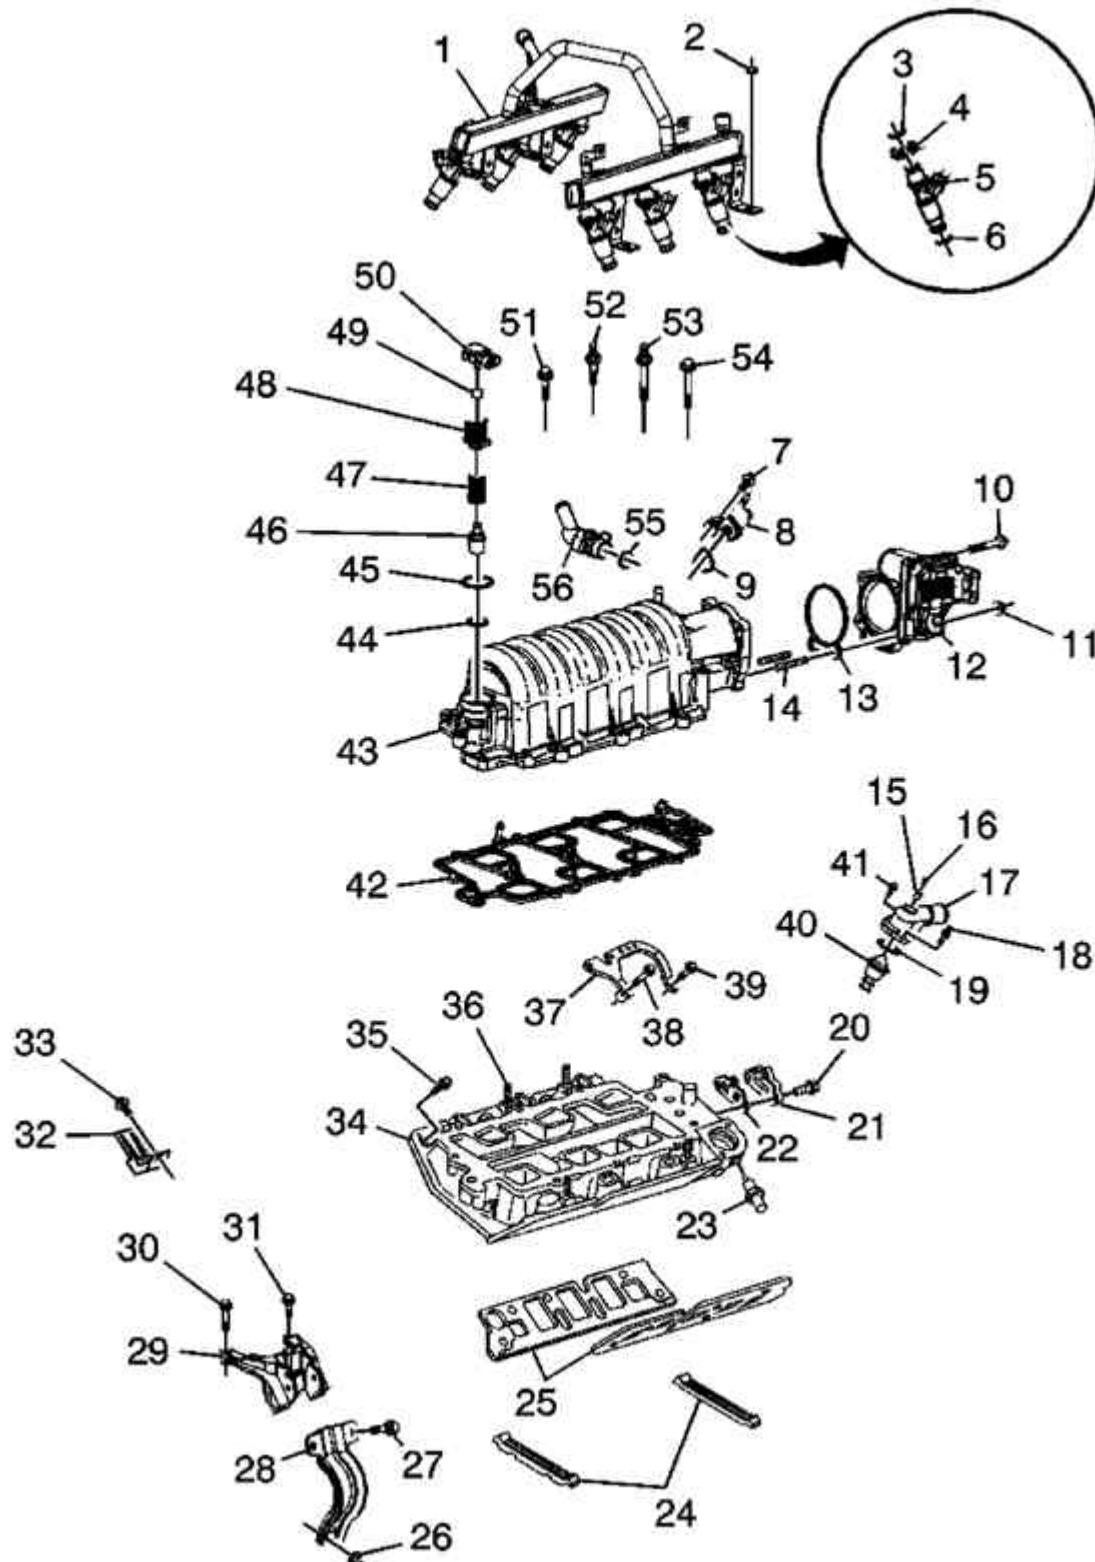

**Fig. 3: Intake Manifold and Components**
**Courtesy of GENERAL MOTORS CORP.****Callouts For Fig. 3**